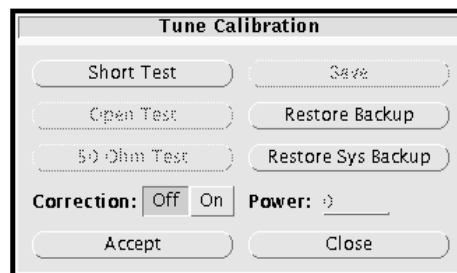

Figure 31. Tune Calibration Window
2. Click the **Calibrate** button on the Tune Control Panel. The Tune Calibration window opens (see Figure 31).
1. Click the **Calibrate** button on the Tune Control Panel. The Tune Calibration window opens (see Figure 31).